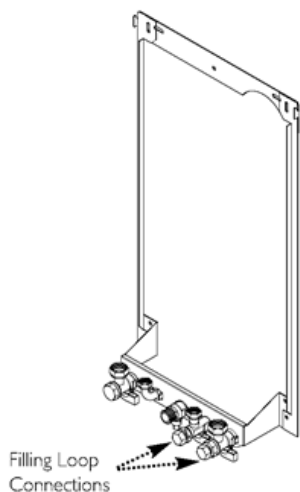

Fig. 5
2. A filling loop is supplied with the boiler in the installation kit. Follow the instructions provided with it to connect to the taps shown in Fig. 5.